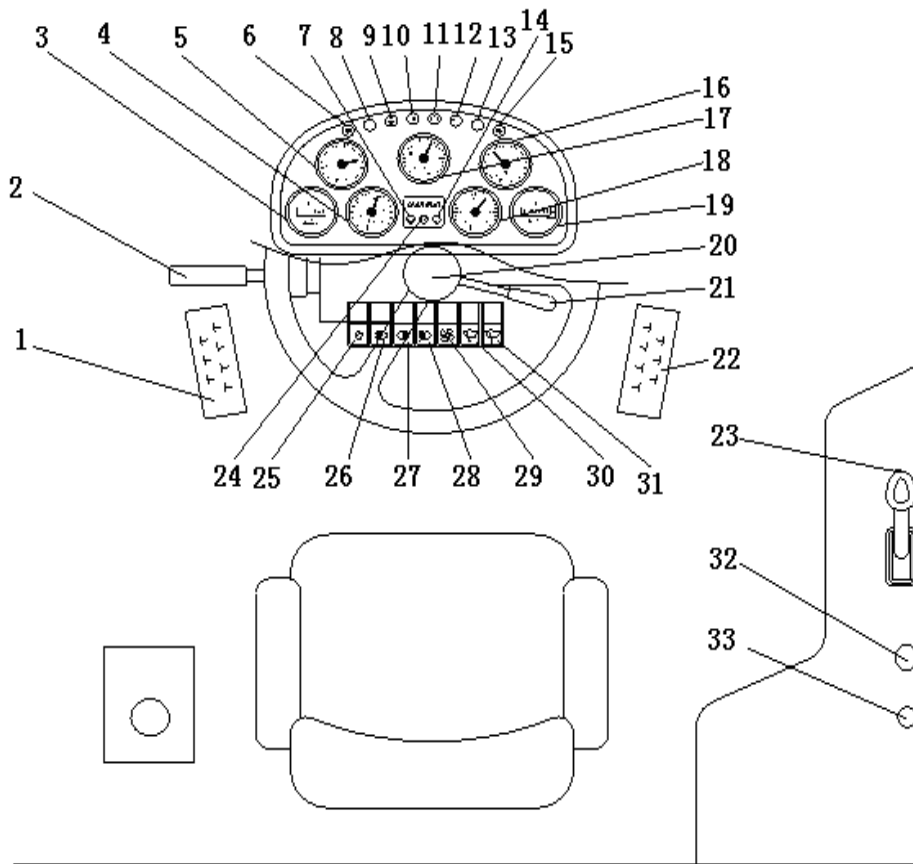

Fig. 3 – 1 Operation equipments and instruments in cab
Before driving, it is necessary to know the location and function of each operating device, meter and indicating light. The arrangement of devices and meters in cab is shown in Fig. 3 - 1. The operator falls into the habit of watching the instrument board always in operation and discovers any abnormal condition on time.
Plug the key into the switch of the electronic door as figure 3 – 2, turn clockwise the key to connection position, then turn clockwise to starting position, connect the starting motor and start up the diesel engine. When weather is cold, turn the starting switch anti-clockwise to pre-heat position, then start after air incoming for preheating.
(1) Gear shift lever: (See Fig. 3 - 3)